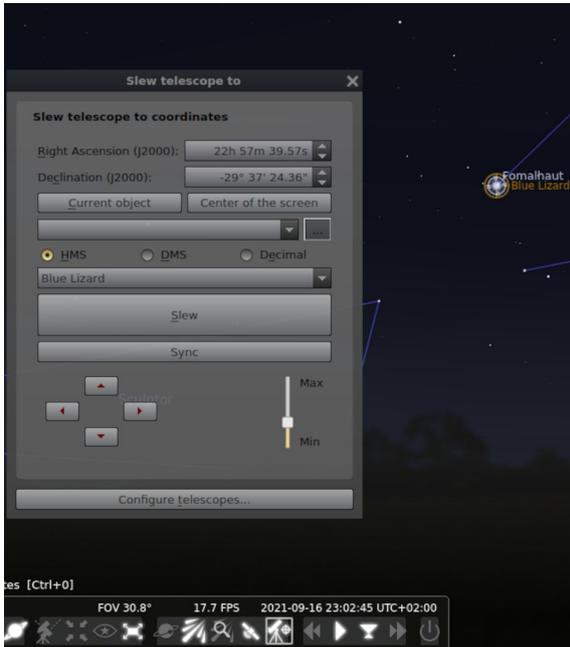

Figure 13: Telescope motion with INDI in *Stellarium*. The Telescope button in the bottom menu opens a dialogue for interaction with the controller.
- Now you can close all dialogues; by pressing the *Telescope* button in the lower popup menu of Stellarium, you can open the INDI dialogue. The coordinates of a selected object can be transferred with the *Current object* button, and one can align or slew to this object. Manual motion with direction buttons at the four different speeds of LX200 is also possible (Fig. 13).